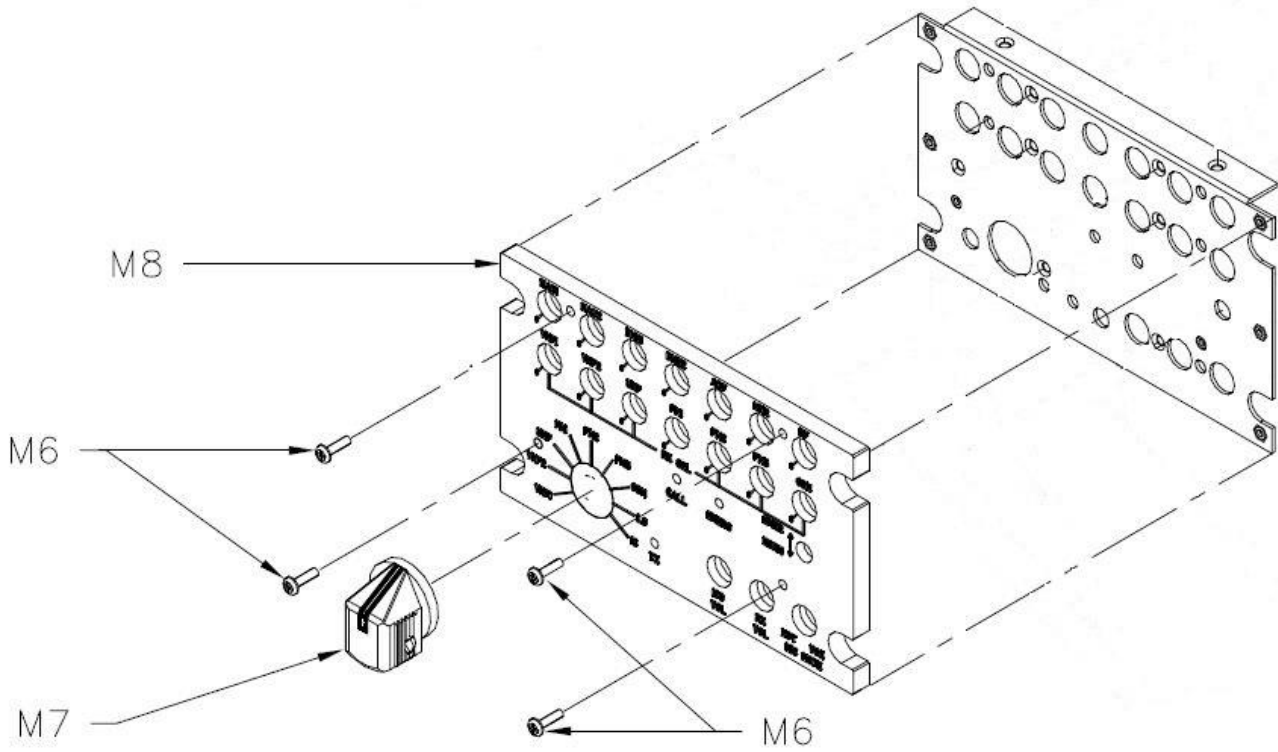

Figure 1
1. To remove the existing engraved faceplate and TX Selector knob, refer to Figure 1 and perform the following steps.